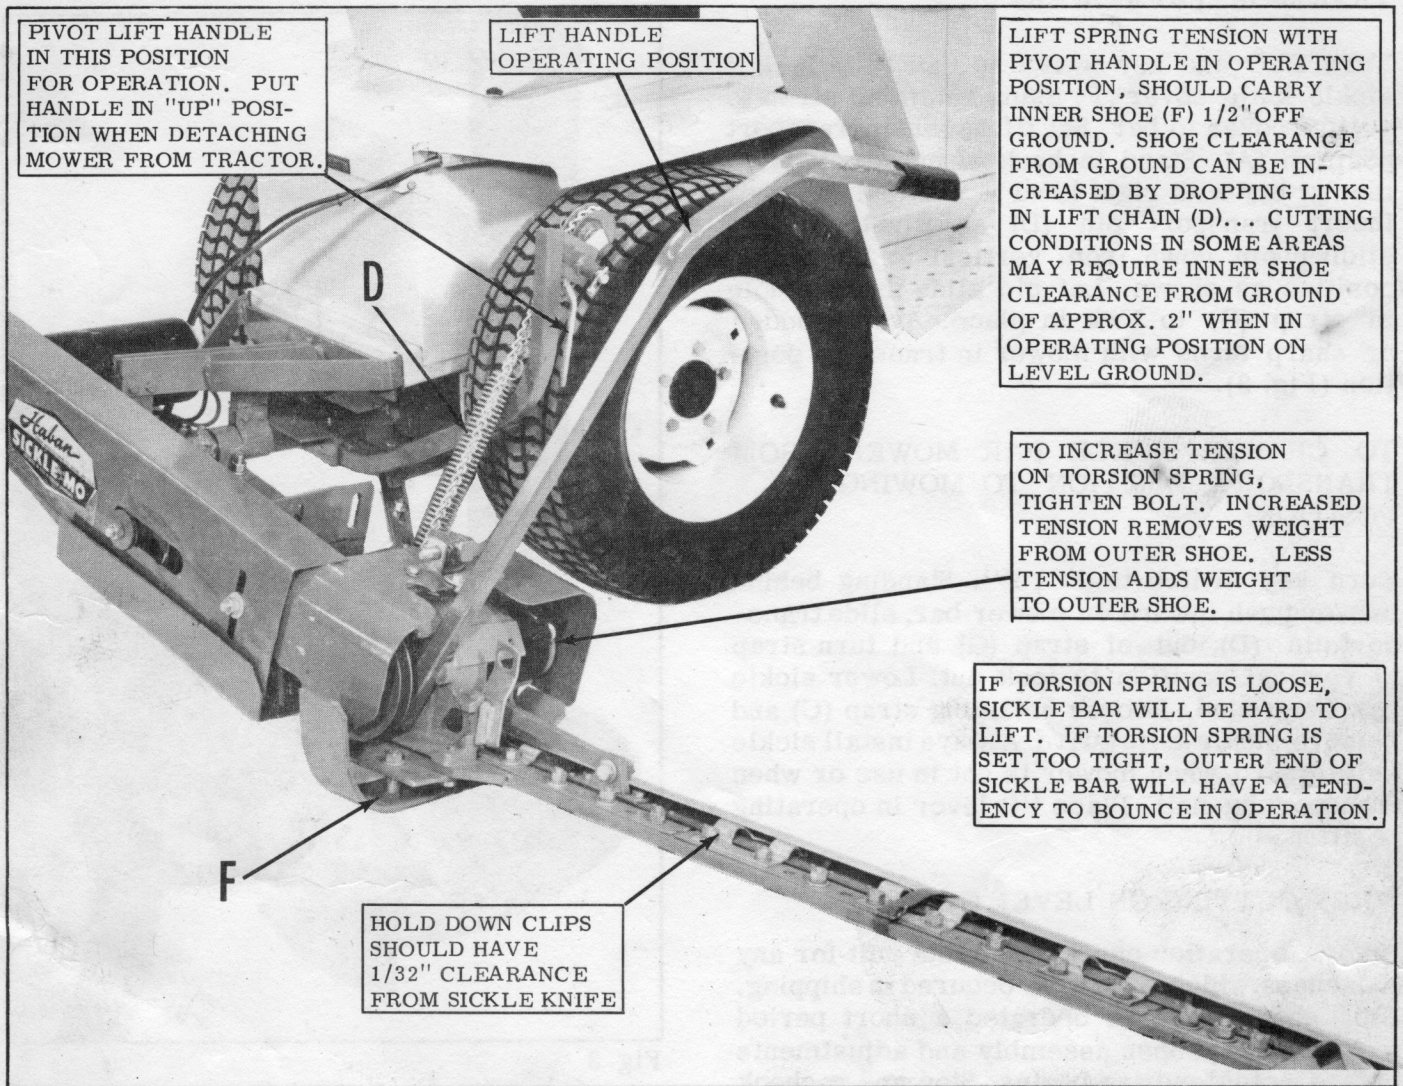

Fig.1
1. Cutter bar outer shoe bounces or digs into ground surface.	Adjust torsion spring as indicated in figure 1, (Page 5).
2. Inner shoe dragging on ground.	Raise inner shoe assembly by adjustment of lift spring (Fig. 1, page 5). Make sure lift chain is properly assembled.